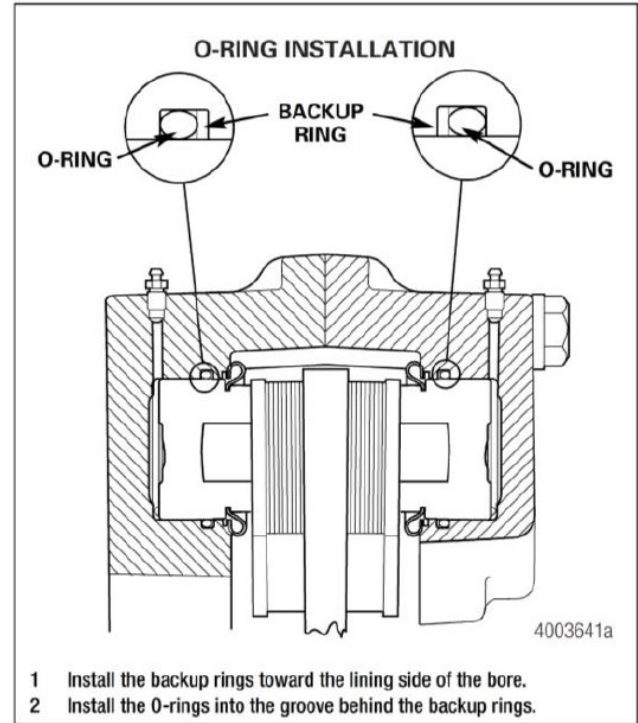

Figure 5.1
- If the brake is equipped with O-rings seals: Refer to Figure 5.1.